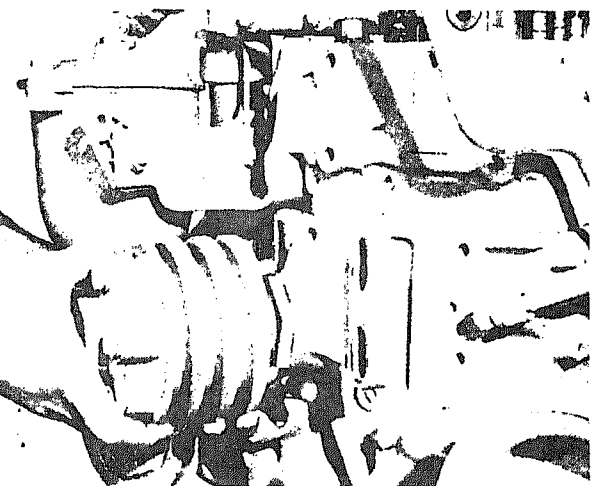

Fig. 14-1-80. Installing fan hub and bracket assembly
1. Place fan hub and bracket assembly in position against front of block, Fig. 14-1-80. Install flatwashers, lockwashers and capscrews; screw capscrews in 2 or 3 turns.